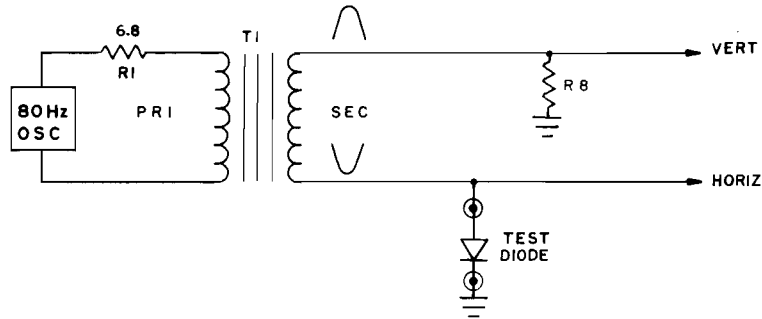

FIG. 12
**Figure 12** is a basic circuit representation of the signal section of the **TRACKER®**. The circuit is shown with a test diode in place.
R16 is the horizontal phase correction and compensates for the impedance of R21 going into the horizontal amplifier as well as CRT distortion. Referring back to **Figure 12**, it was shown that maximum voltage appears at the horizontal end of the secondary only when there is infinite impedance presented by R21 and IC1. R16 corrects for this difference.